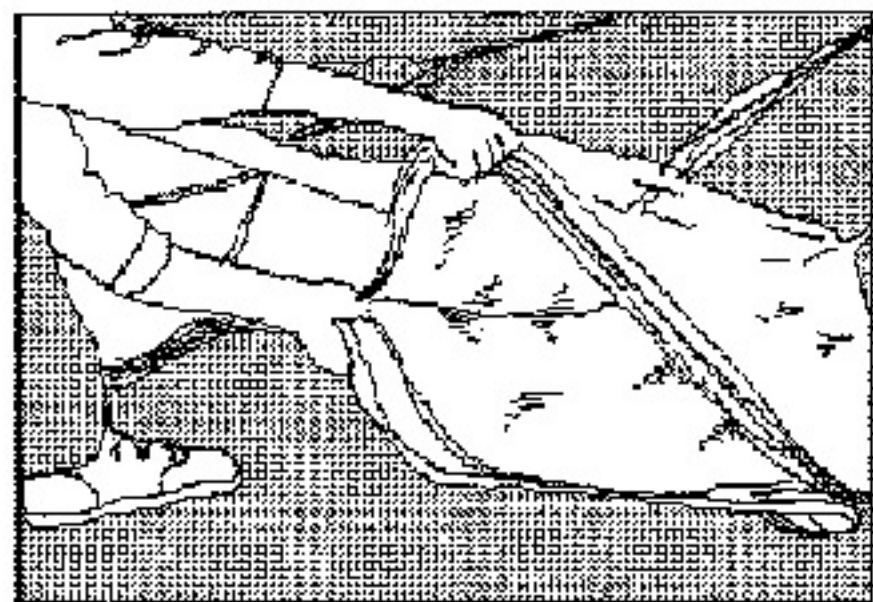

Figure 3
PAGE 9.....	DRAWING FIGURES 3 - 6
3. KNEEL AT THE TOP OF THE CANOPY, GRASP THE TOP 4 CELLS WITH YOUR RIGHT HAND HALFWAY BETWEEN LINE GROUPS A AND B. (LEFT HALF OF THE CANOPY) GRASP ALL 7 CELLS WITH YOUR LEFT HAND DIRECTLY ABOVE GROUP B. MAINTAINING A CONSTANT DISTANCE BETWEEN YOUR HANDS, RAISE THE CANOPY ABOUT 10" OFF THE FLOOR AND MOVE IT TO THE RIGHT UNTIL LINE GROUPS A AND B ARE IN LINE. (SEE FIG 3- 4) BE SURE TO MAINTAIN AN EVEN TENSION IN ALL THE LINES WHILE MAKING THESE FOLDS. NOTE: IT IS ASSUMED THAT A 7 CELL CANOPY IS BEING PACKED.